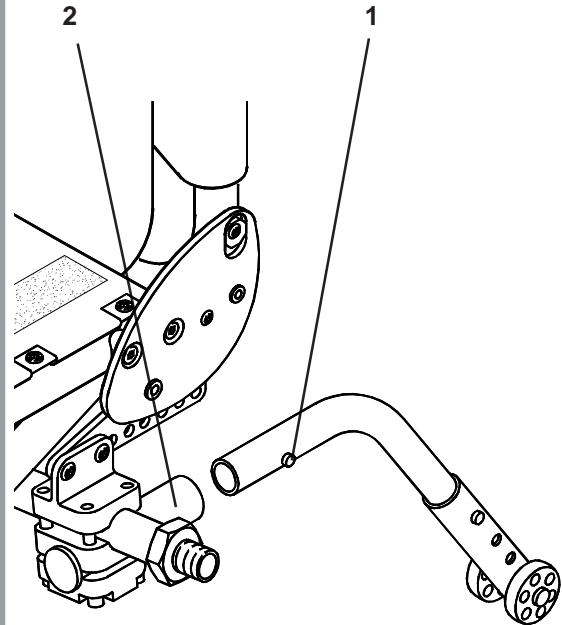

Fig. 19
To fit anti-tip tubes (Fig. 19), hold the release pins (1) in and insert the anti-tip tube into the receiver (2).